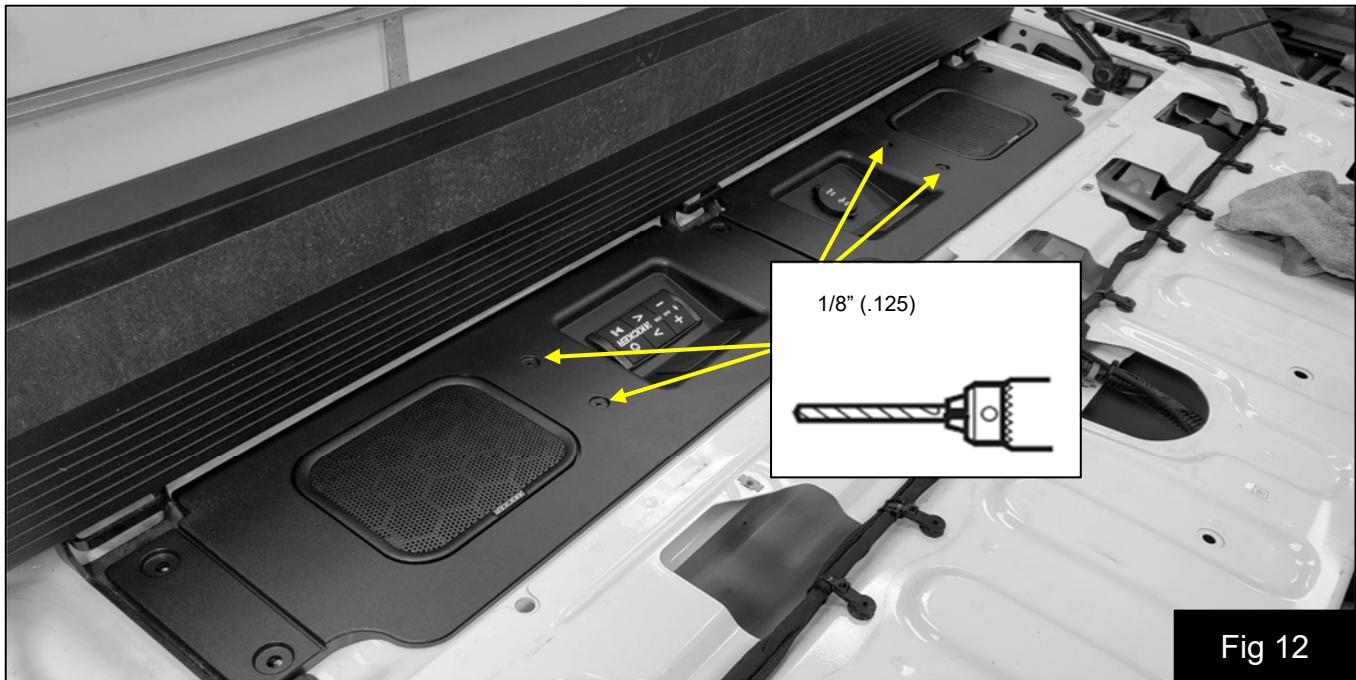

Fig 12
18. Temporarily install the speaker baffle and loosely install all six supplied replacement bolts. The right side baffle should overlap the left side baffle in the center. Fig 12
20. Predrill the four pilot holes for the supplied fine-threaded screws using a 1/8 (.125) drill bit and then remove the bolts and speaker baffle. Fig 12